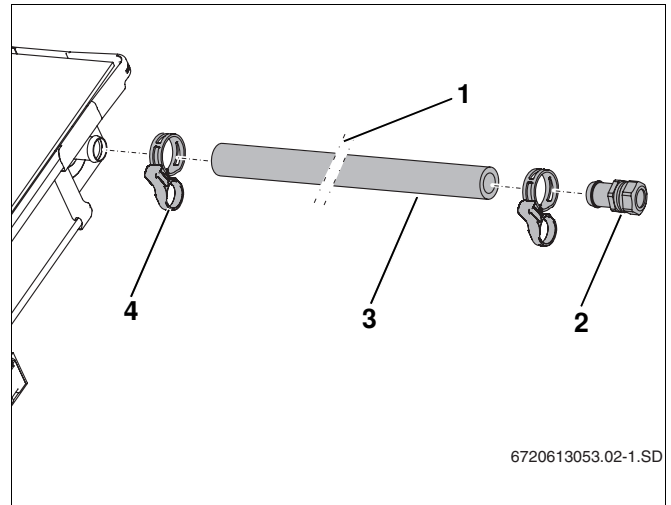

Fig. 57 Fitting flow line (with no vent on roof)
- Push the long solar hose (1000 mm, Fig. 57, **Item 3**) onto the flow connection on the collector array and fix in place using hose clip (Fig. 57, **Item 4**).
- Insert hose nozzle with compression fitting (Fig. 57, **Item 2**) into the solar hose as far as it will go, and fix in place with hose clip.
- Connect header pipe to the R $\frac{3}{4}$ hose nozzle with compression fitting (15 mm) (Fig. 57, **Item 2**).